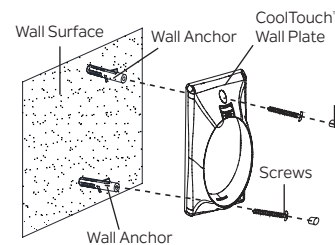

Fig. 29a
Step 2. Use the drywall anchors and screws provided to finish the installation. (Fig. 29a)